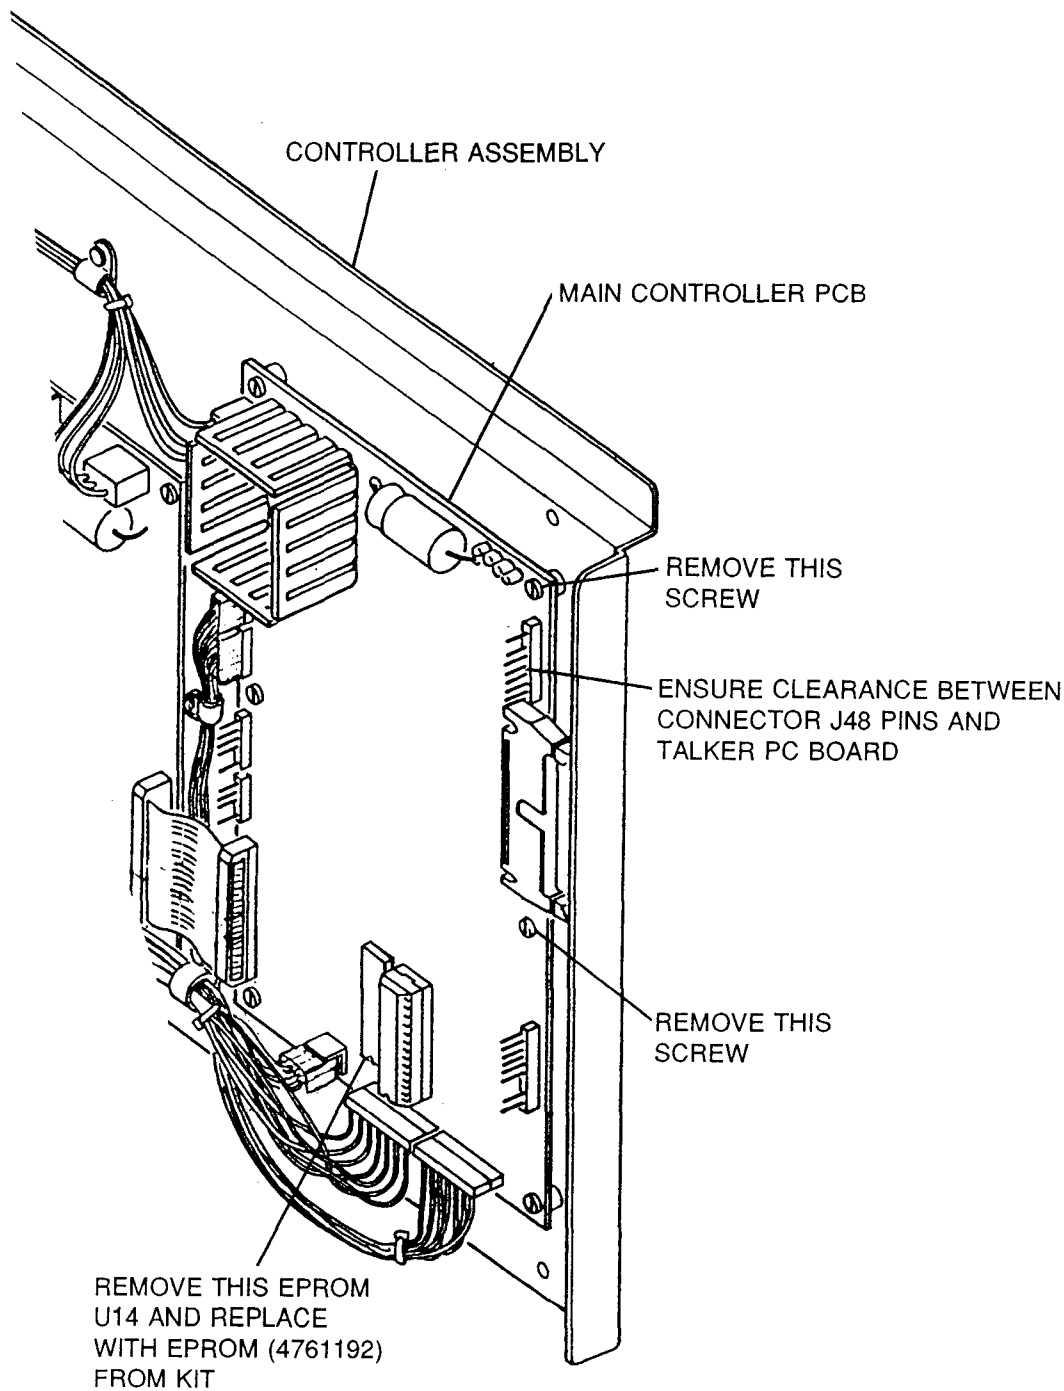

Figure 3
3. Remove two mounting screws from the upper right side of the main controller board. See Figure 3.